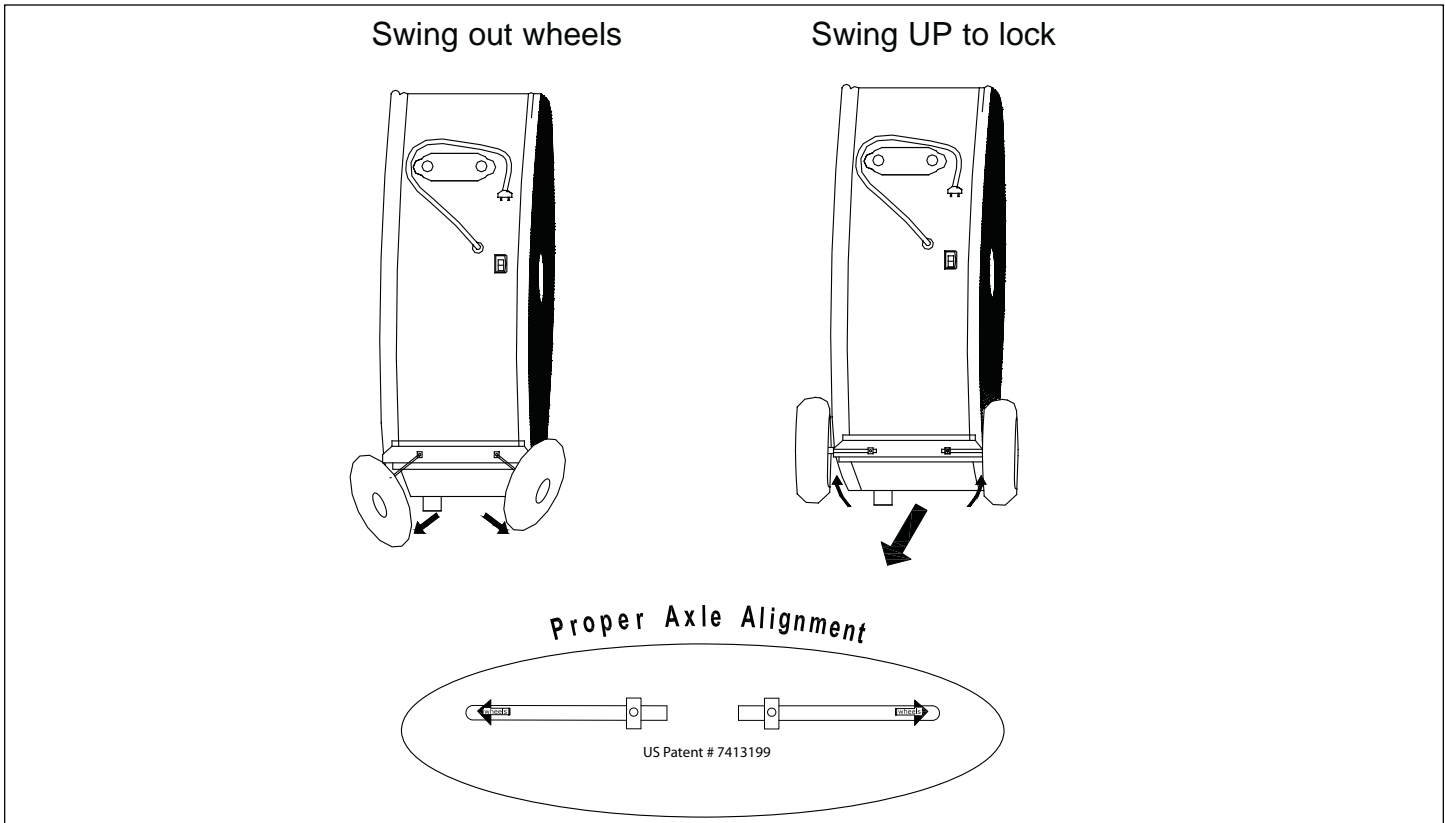

figure 1: Wheel Assembly
**NOTE: This fan uses a folding wheel design. For quick assembly, simply swing the wheels out and snap to lock in place ( see figure 1).**